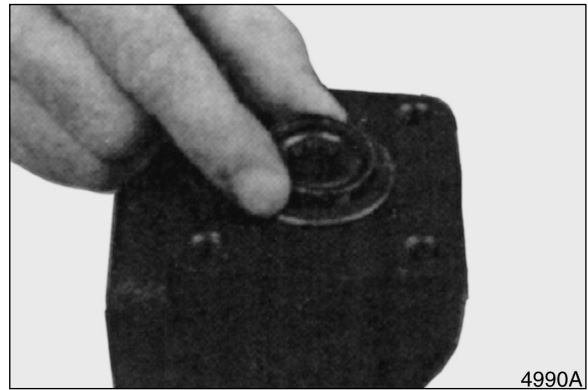

Figure 60
30. Turn steering unit over and work from opposite side. Set dust seal in position on housing. See Figure 60.